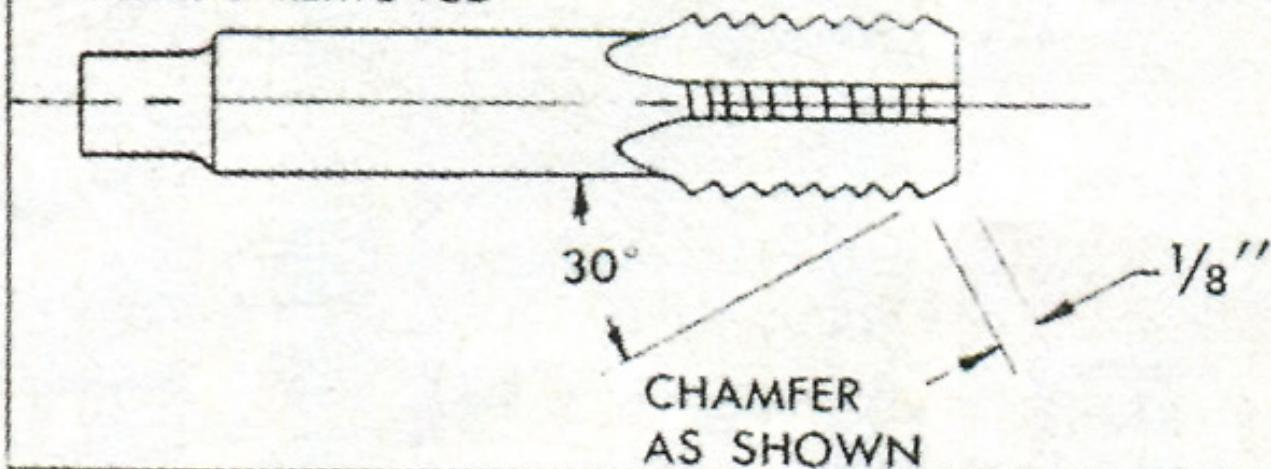
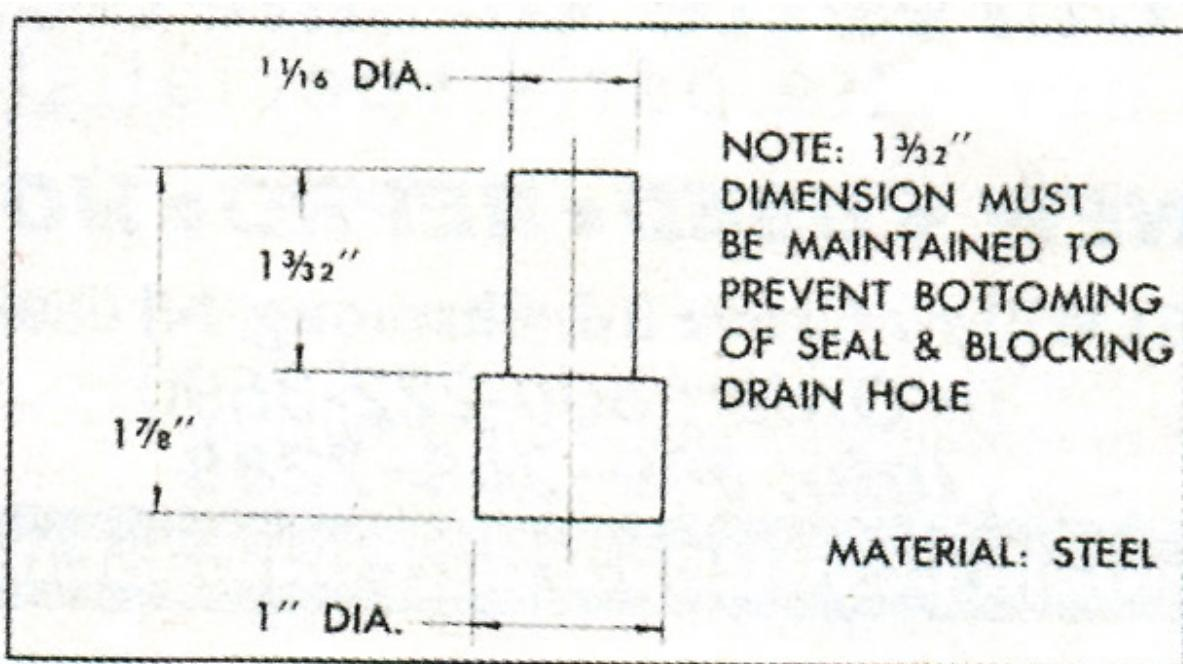

Fig. 6—Seal Remover
Fig. 7—Seal Installer
7. Screw reworked tap (Fig. 6) into seal.
10. Place a new seal in position in pump body with open end of seal downward. To satisfactorily replace the seal, it will be necessary to first make a seal remover (Fig. 6) and seal installer (Fig. 7), then perform the replacement exactly as described in the following.
11. Press into place using seal installer tool (Fig. 7).